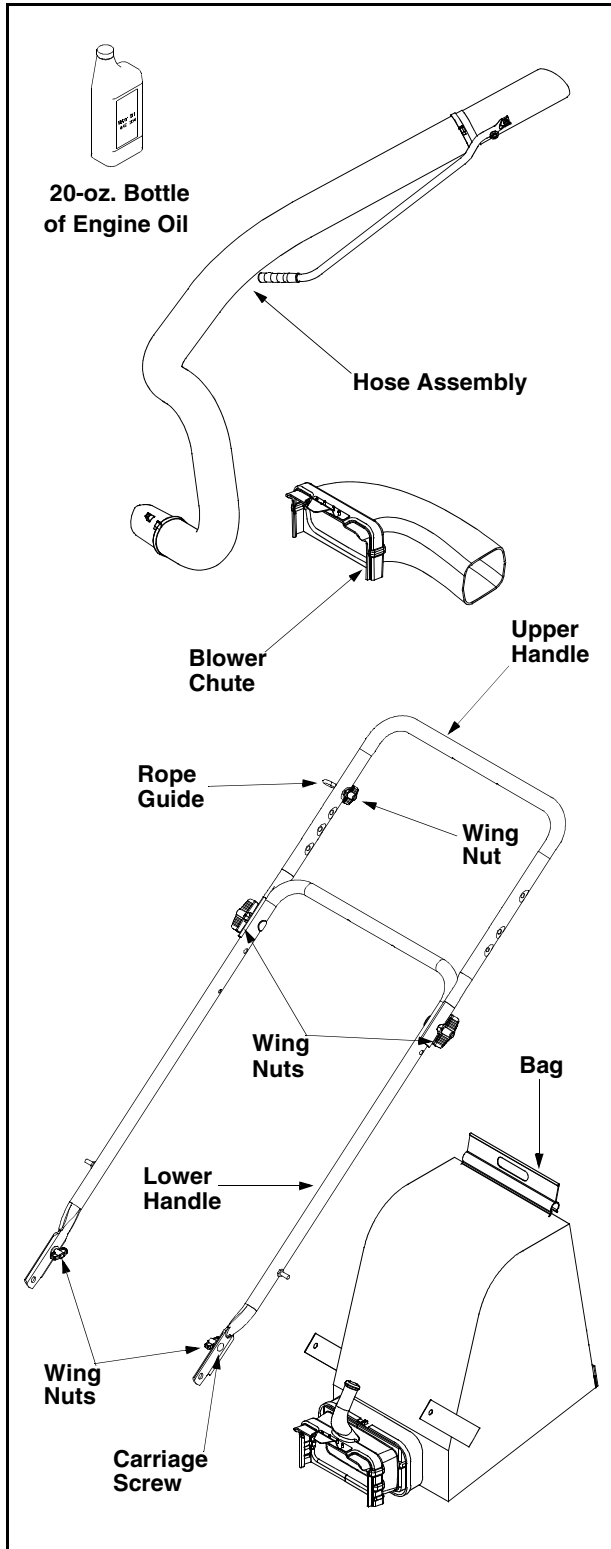

Figure 1
NOTE: Reference to right and left hand side of the Yard Vacuum is observed from the operating position. See Figure 1.
This Yard Vacuum has been completely assembled at the factory, except for the handle, bag, and blower chute. These parts are shipped loose in the carton. A pair of safety glasses and a 20-oz. bottle of engine oil are also included in the carton. See Figure 1.
LOOSE PARTS IN CARTON (See Figure 1)
- Unfold the upper handle until it aligns with lower handle. Make sure the rope guide is on the right side of upper handle. See Figure 1.